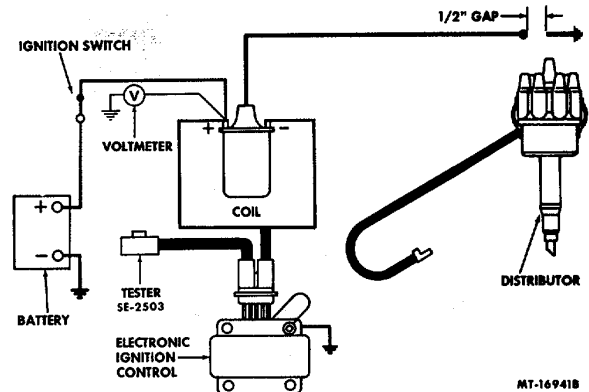

Fig. 3 Primary Voltage Test - Voltmeter Connected to Coil Positive (+) Terminal
2. Disconnect distributor sensor wiring connector from electronic ignition control and plug tester (SE-2503) into ignition control (Fig. 3) or remove distributor cap and "bump" starter to position sensor coil between two trigger wheel teeth.
Connect voltmeter between coil positive (+) terminal and ground (Fig. 3).